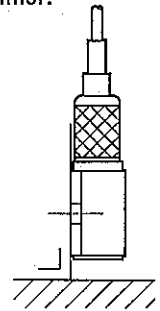

Fig. 3-2
*When installed vertically as Fig. 3-2 illustrates, the transducer retains the no-load (0m/s²) condition.